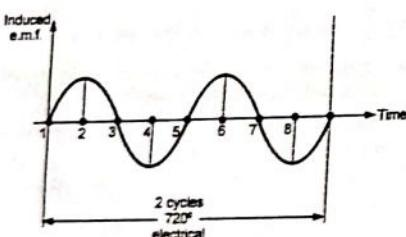

Fig. 9.5.3 Nature of the induced e.m.f.
- So if we plot the nature of the induced e.m.f. for one revolution of the conductor, we get the two electrical cycles of the induced e.m.f., as shown in the Fig. 9.5.3